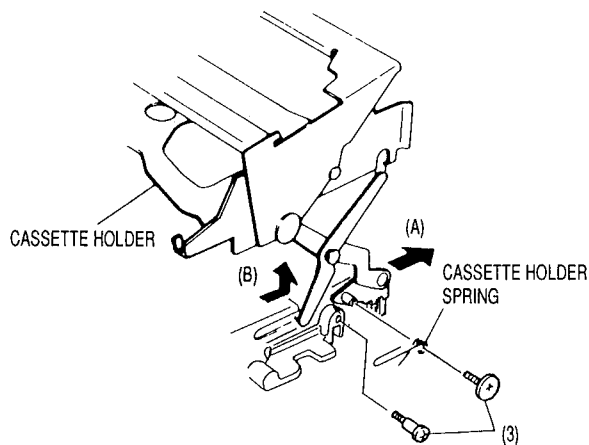

Fig. 3-3
- 4) Remove 2 screws (3) holding the cassette holder and cassette holder spring. (See Fig. 3-3)